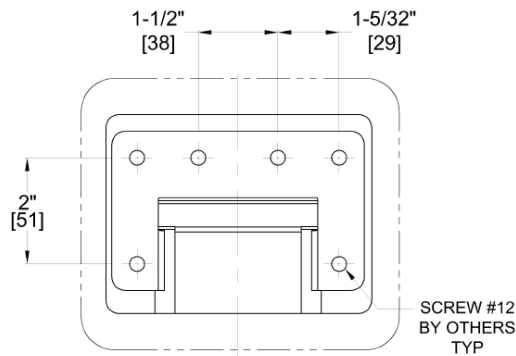
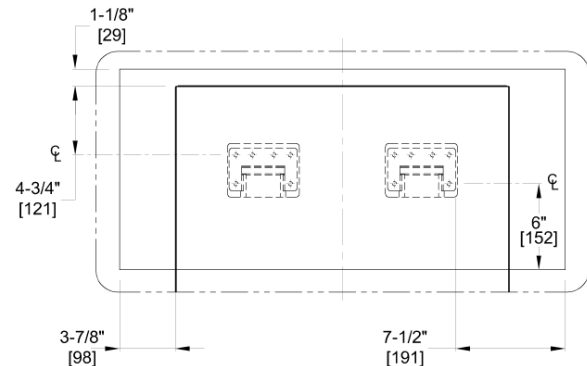
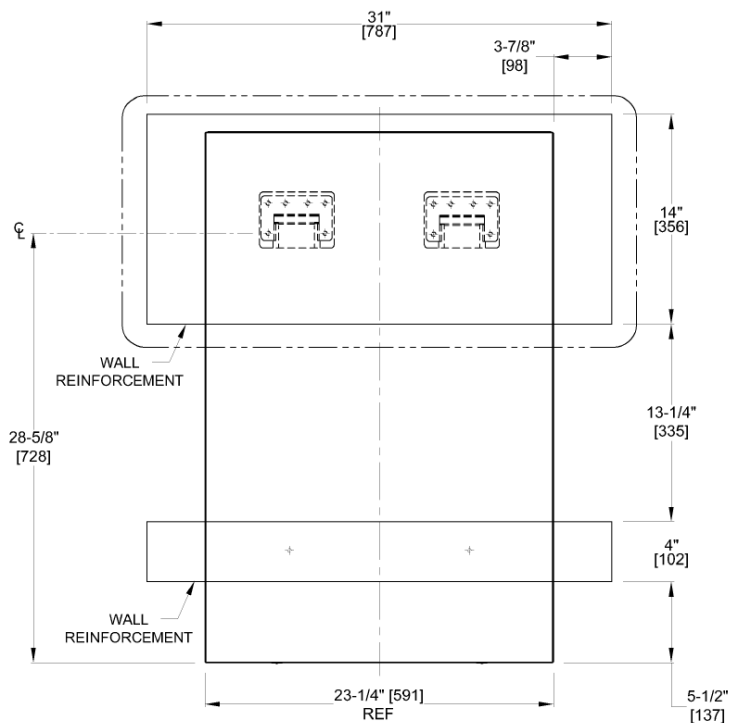

FIG. 1
FIG. 3
FIG. 2
Appropriate wall reinforcement must be prepared prior to initiating the Velare™ BTM System installation. Install the two (2) mounting plates on wall using twelve (12) № 12 self-threading, pan-head screws (by others) (Fig. 1) into appropriate anchoring and wall reinforcements (Fig. 2). Hang cabinet on wall mounting hanger hooks (Fig. 3). Suggested mounting height is to position bottom of module 406 to 508mm above vanity top so bottom aligns with Model №'s 0661-X or 0663-X on either side of Filler Module (Fig. 4). Install two (2) №12 self-tapping locking screws (by others) into appropriate anchoring to prevent unit from being lifted off hanger hooks (Fig. 2).